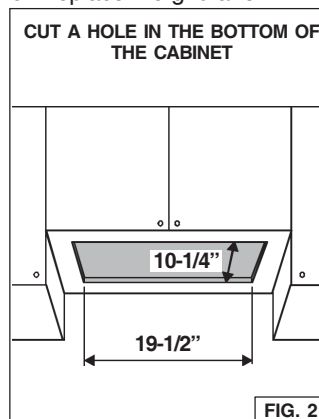

FIG. 2
1. Cut a hole in the bottom of the cabinet, using the dimensions shown in Fig. 2.